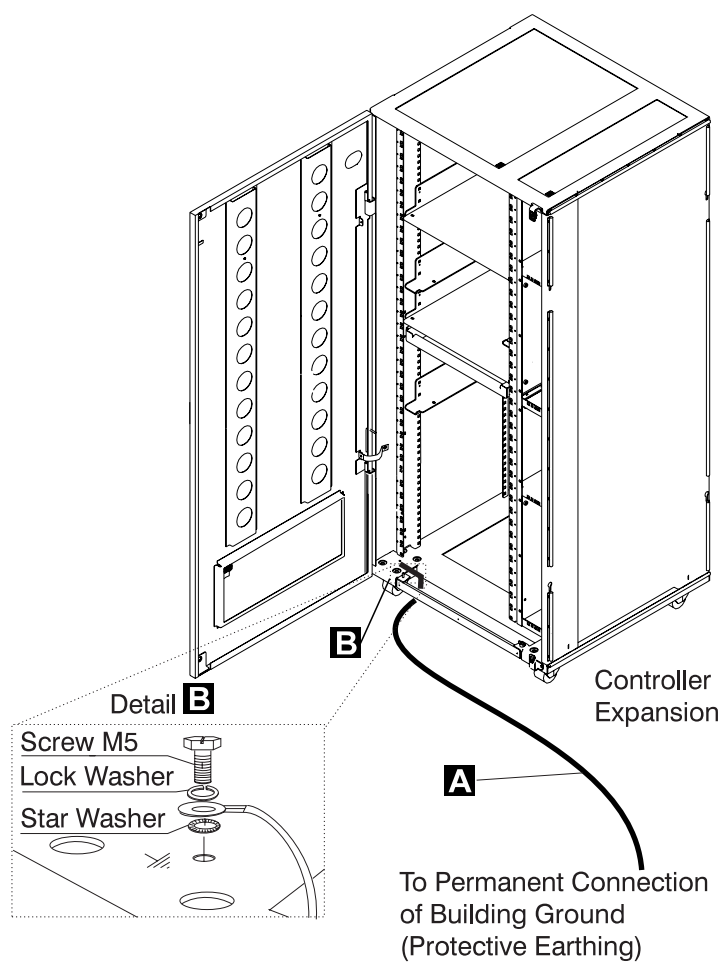
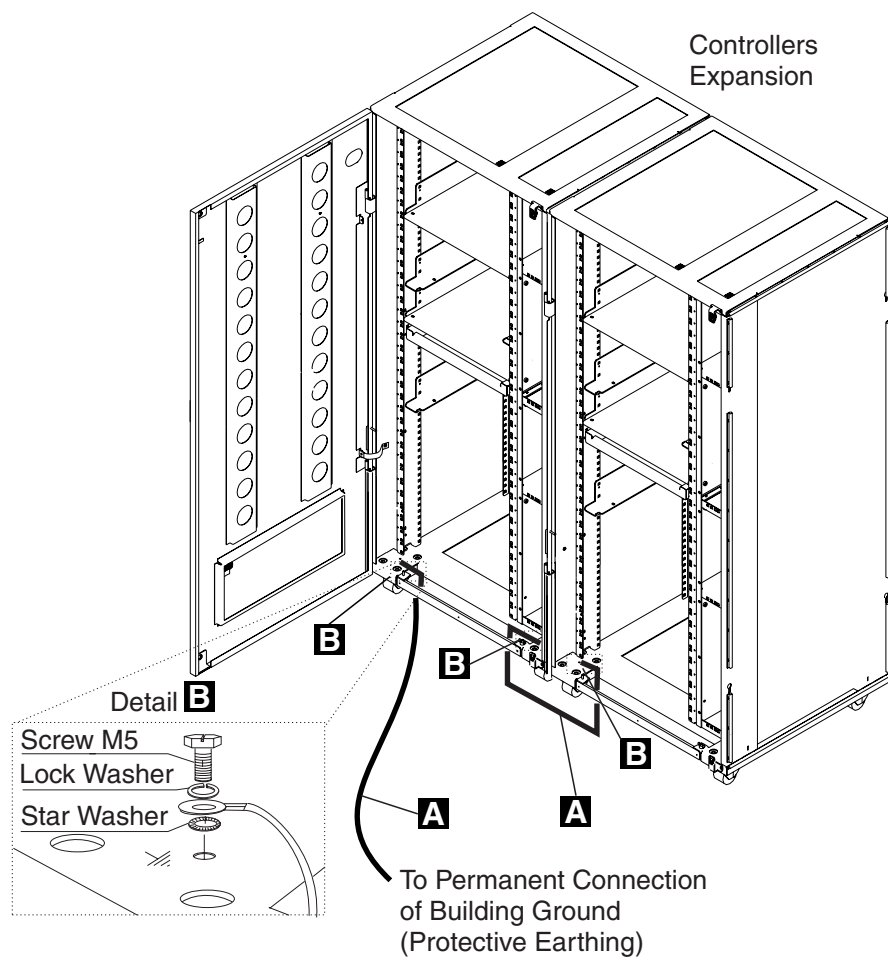
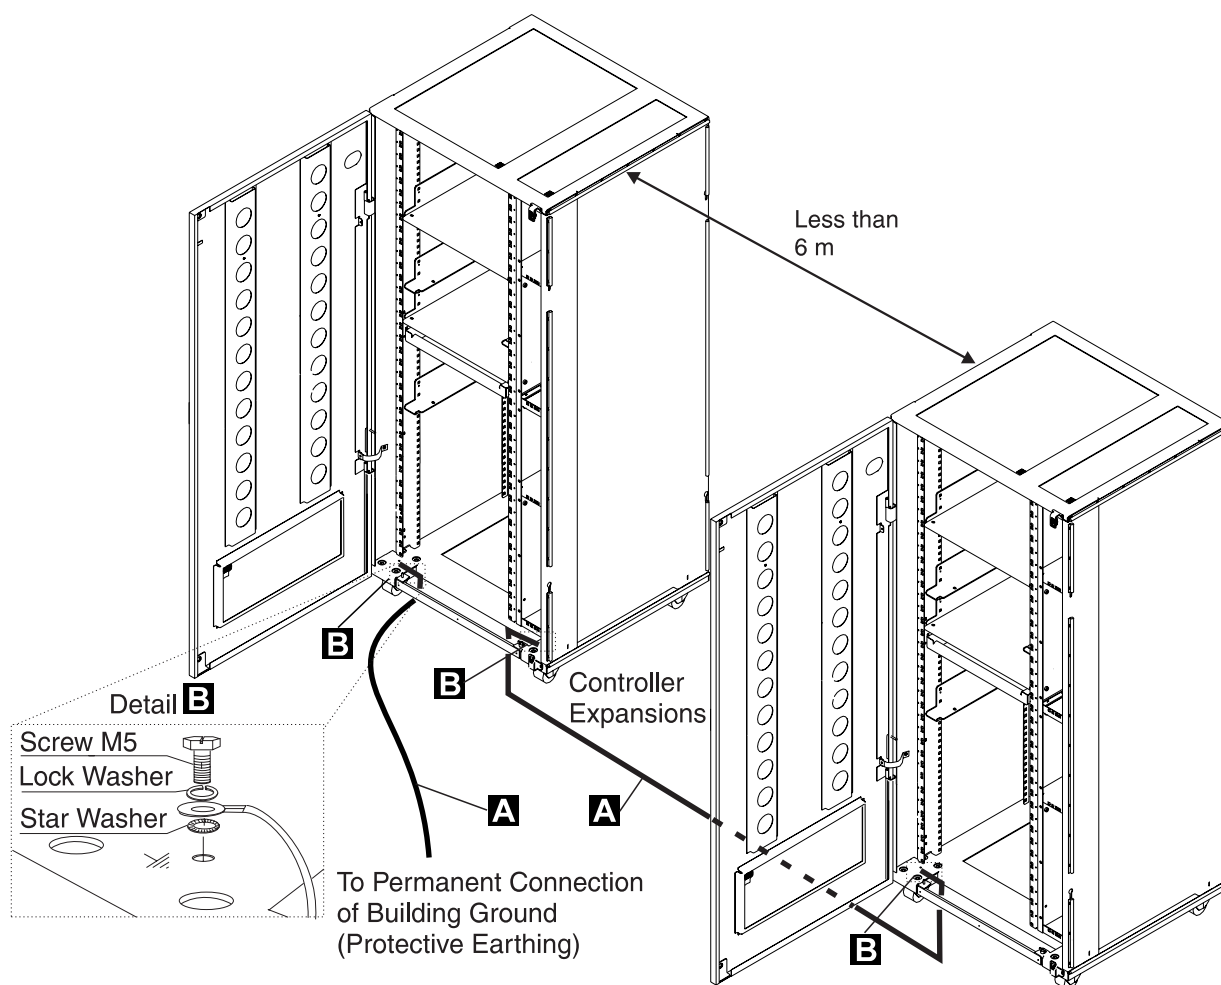
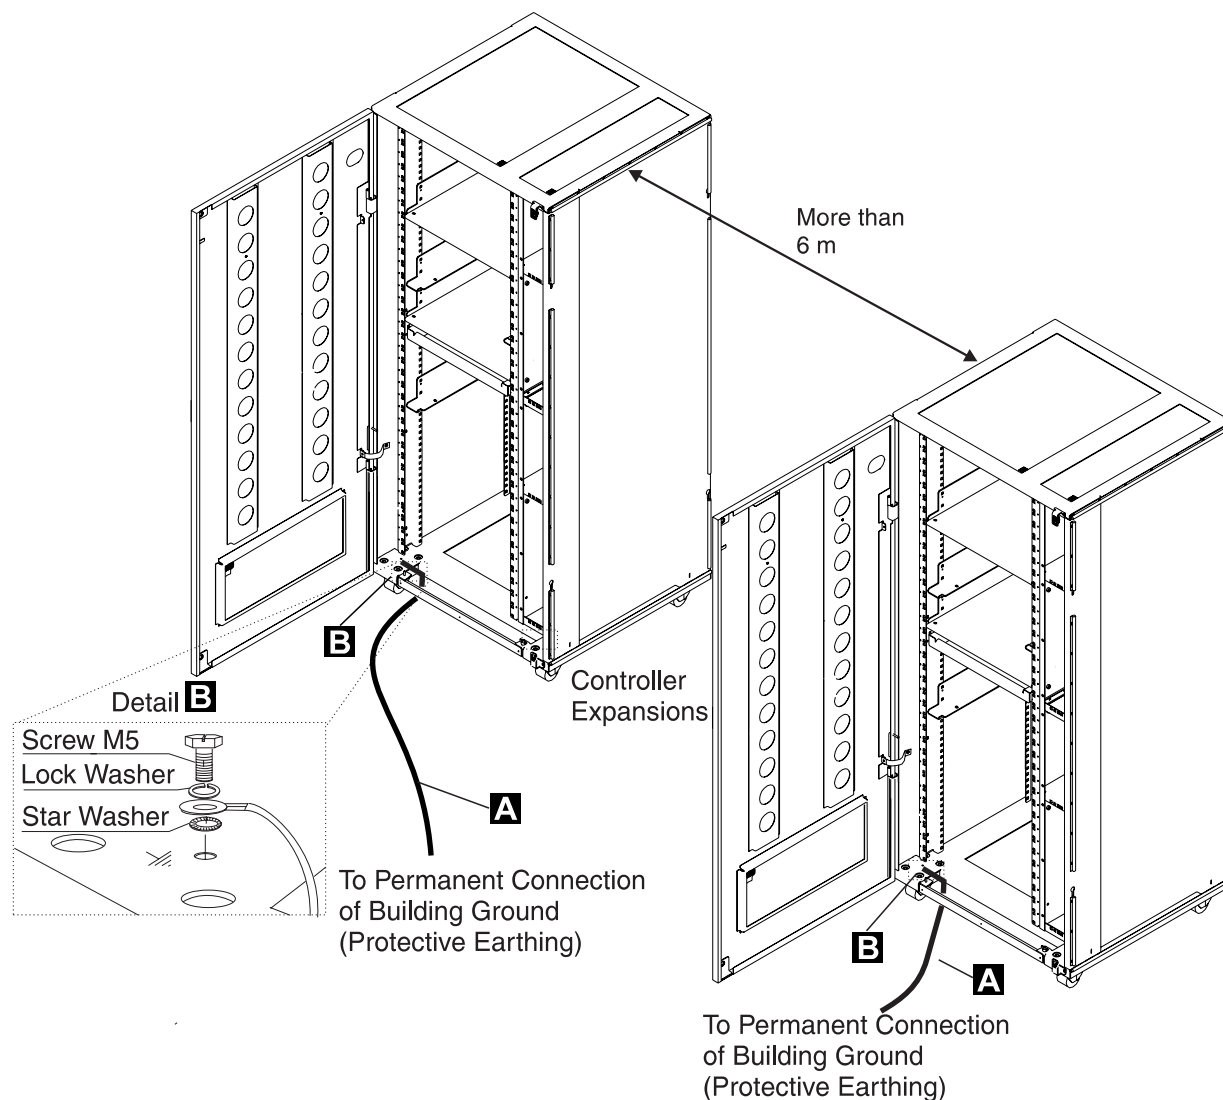

Figure 0-2. Ground Wire Connection on Controller Expansion
Figure 0-3. Ground Wire Connection Between Attached Controller Expansions
Figure 0-4. Ground Wire Connection Between Controller Expansions at Less than Six Meters
Figure 0-5. Ground Wire Connection Between Controller Expansions at More than Six Meters
Do not remove the power cord and ground strap **A** of the controller expansion in order to maintain the ground protection (see Figure 0-2 on page xxiii, Figure 0-3 on page xxiv, Figure 0-4 on page xxv, or Figure 0-5 on page xxvi).
- For controller expansion, an additional ground wire **A** is also used (see Figure 0-2 on page xxiii, Figure 0-3 on page xxiv, Figure 0-4 on page xxv, or Figure 0-5 on page xxvi).
- If you have only one controller expansion installed, check that the ground wire **A** is installed (see Figure 0-2 on page xxiii).
- If you have several controller expansions installed, check that the ground wires **A** are installed according to your configuration (see Figure 0-3 on page xxiv, Figure 0-4 on page xxv, or Figure 0-5 on page xxvi).